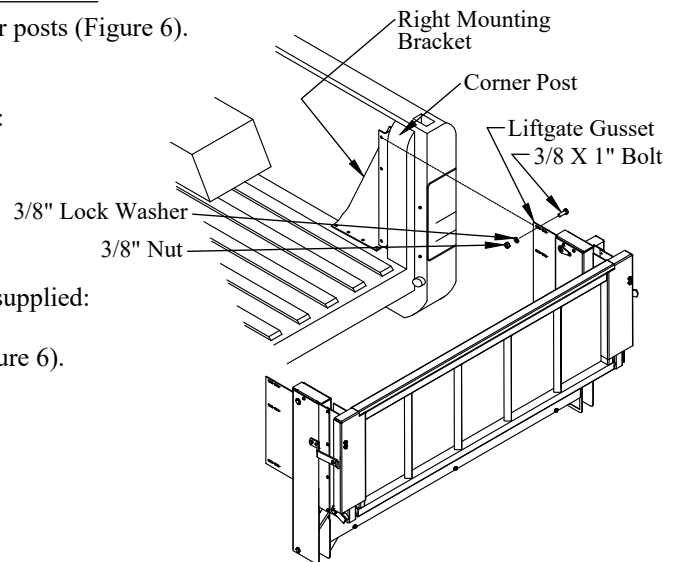

Figure 6: Mounting bracket and liftgate.
1. **Position** the mounting brackets into the truck bed in front of the corner posts (Figure 6).
- (3) 3/8"x1" hex head bolts on the bracket-side (Figure 6).
- (3) 3/8" lock washers, and (3) 3/8" nuts on the gusset-side (Figure 6).